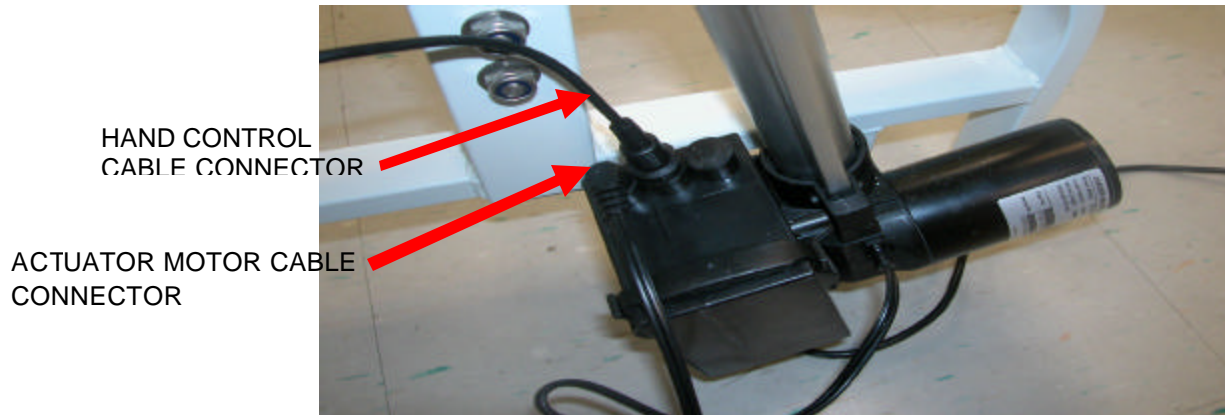

Figure A-3. Connecting of Control Box
Step 3. Connect the hand control cable connector to the control box as shown in (Figure A-3). Verify that the actuator motor cable is connected to the control box. Connect the AC power cable to a wall outlet. Raise the seat to its highest position using the three-position control lever located at the front end of the control arm. Disconnect the AC power cable from the wall outlet.